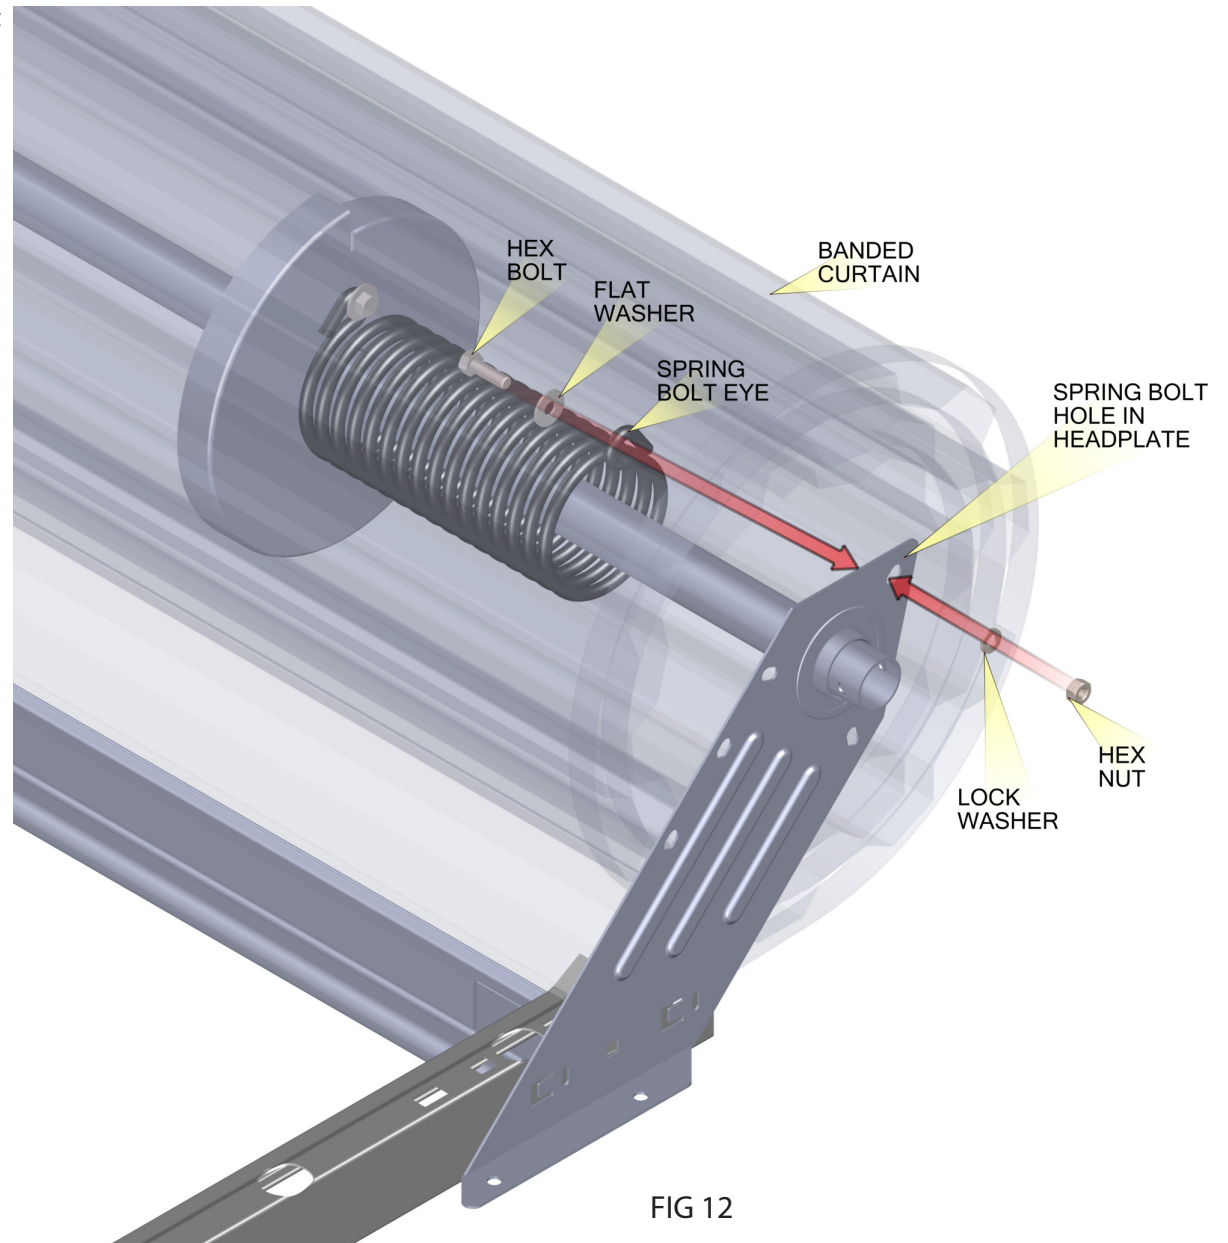

FIG 12
- Bolt the spring to the headplate. See Figure 12.
- **IF THE DOOR HAS DOUBLE SPRINGS:** Bolt the springs to the headplate. See Figure 12.